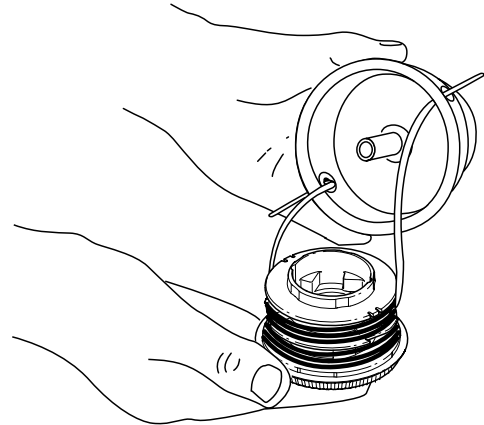

Fig. 24
3. Insert the ends of the prewound inner reel line into the outer spool eyelets (Fig. 24). Push the new inner reel, arrow side up, into the outer spool.